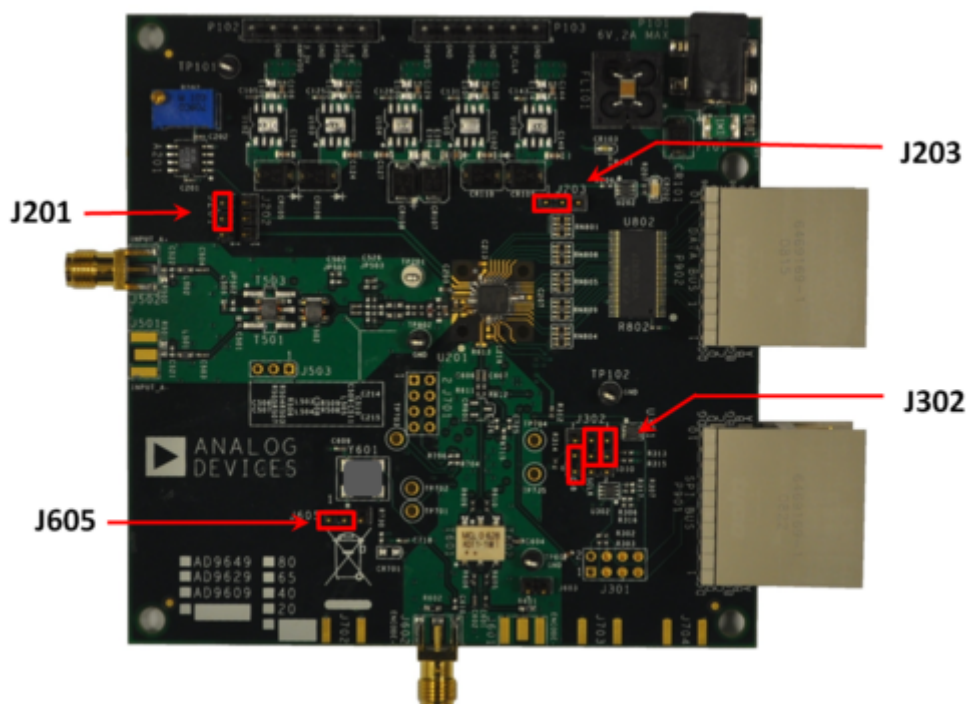

Figure 2. Default Jumper Connections for AD9266-80EBZ/AD9649-80EBZ/AD9629-80EBZ/AD9609-80EBZ Board
5. On the ADC evaluation board, confirm that the jumpers are installed as shown in Figure 2. The configuration in Figure 2 enables SPI control of the device, with the onboard crystal oscillator enabled and utilizing the on-chip voltage reference.
Set the jumper settings/link options on the evaluation board for the required operating modes before powering on the board. The functions of the jumpers are described in Table 1. Figure 2 shows the default jumper settings.